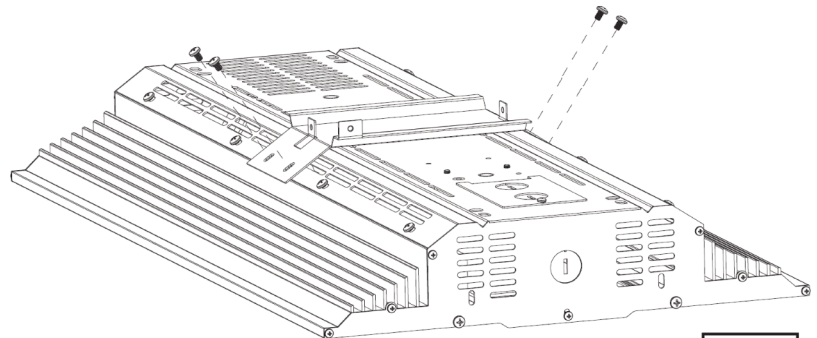

Fig. 2
Attach the base bracket onto the fixture by inserting four (4) M4 screws, as shown in **Fig. 2**.